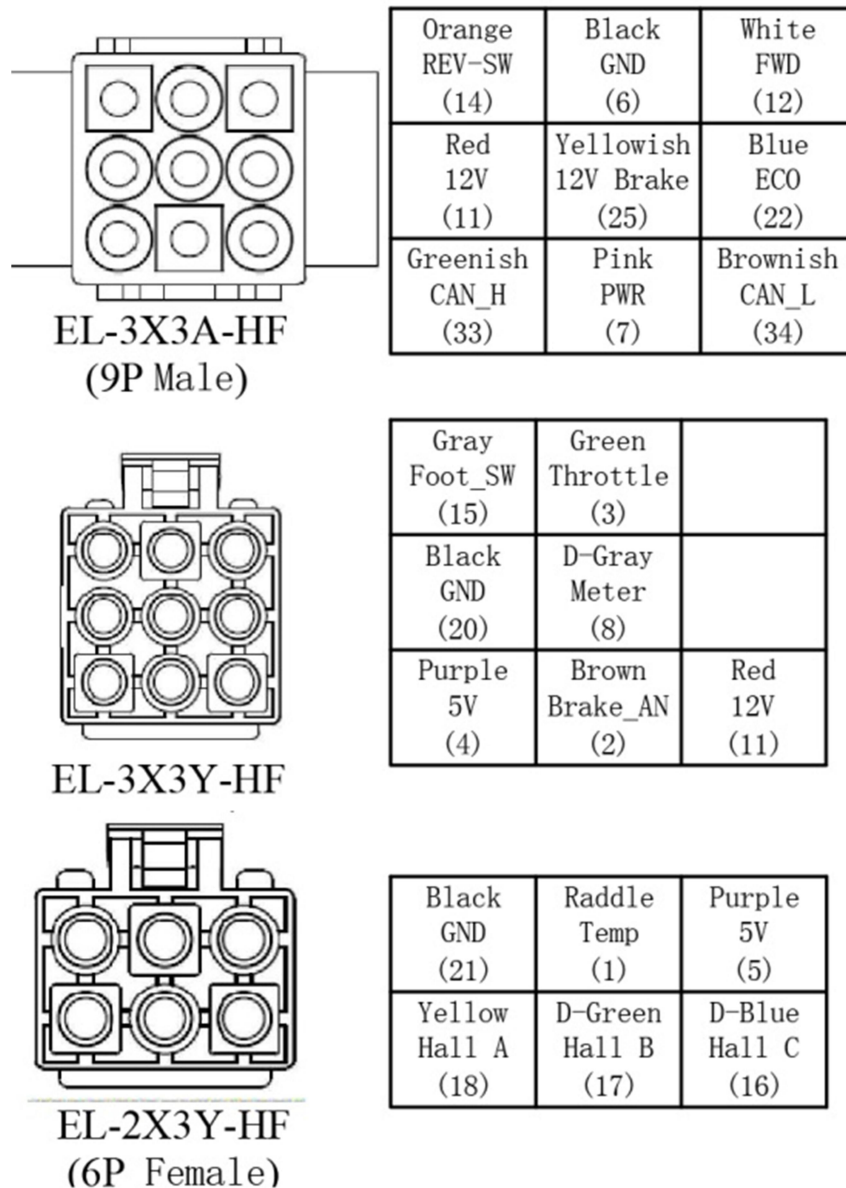

Figure 11: Compact Connectors
1. Connect the controller and the motor according to the **standard wiring diagram (Figure 11)**. Please make sure there is no load on the motor shaft before starting the programming.